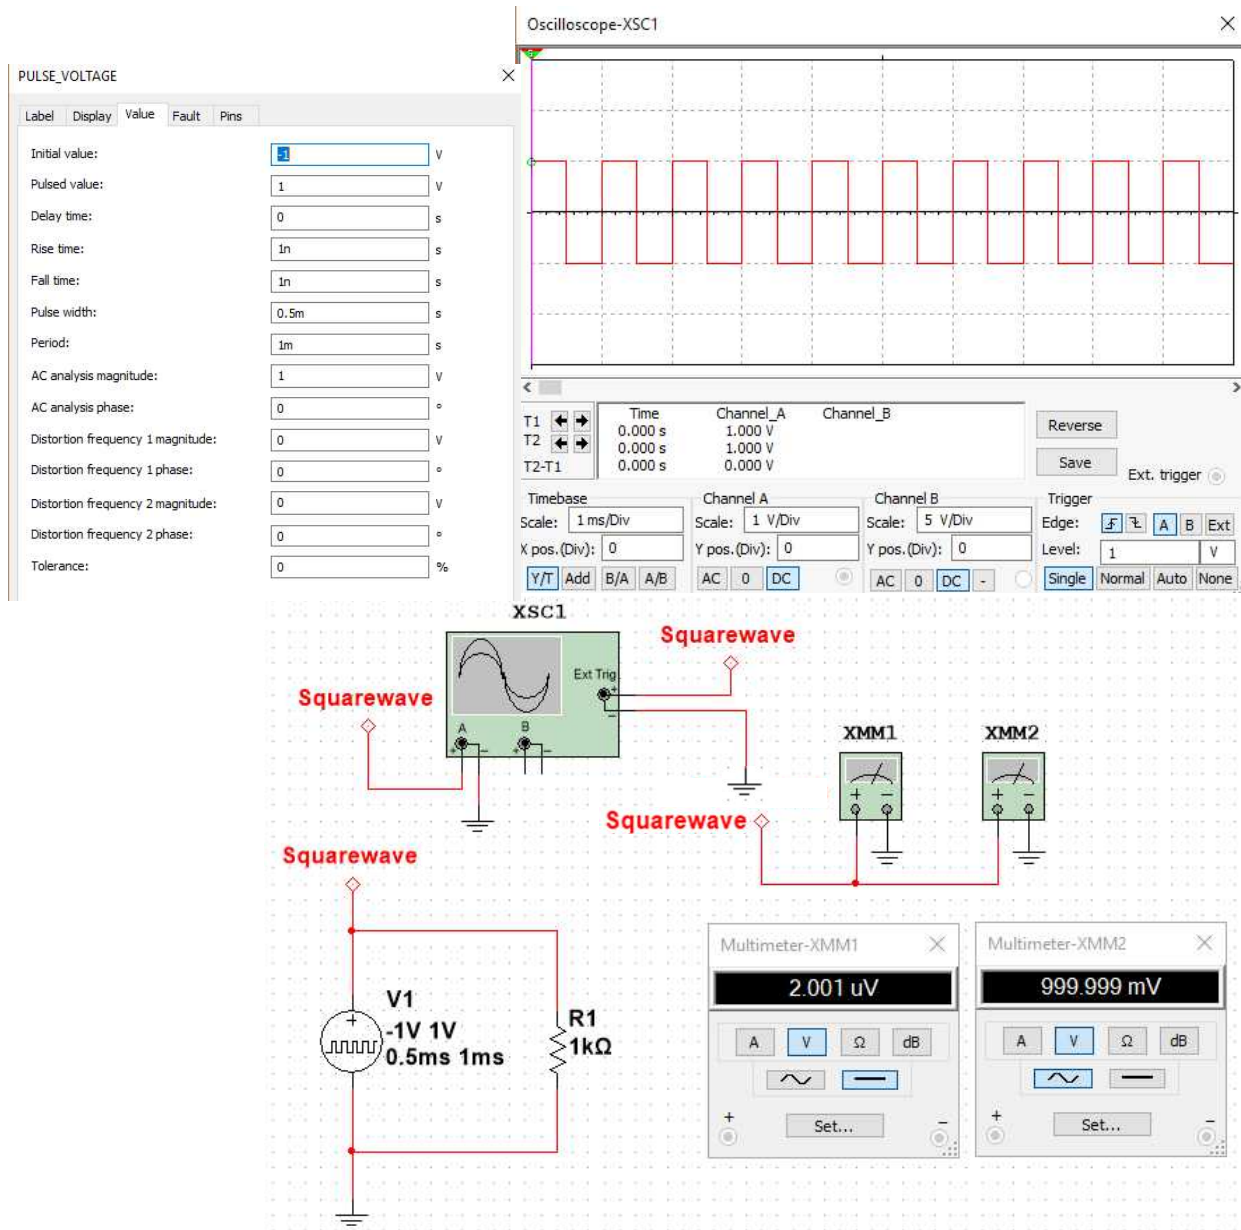

Figure 4-83.
- 4-79 Use the cursor of the oscilloscope to find $V_{dc(min)}$ for 3 Vp-p ripple waveform simulated in Prob 4-78. How does the triangle generator voltage offset compare to $V_{dc(min)}$? Duplicate the simulation of a square wave using the Multisim pulse generator as shown in Fig. 4-83.
- 4-80 Modify the simulation of a square wave shown in Fig. 4-83 to produce a waveform that goes from 0 V (initial value) to 10 V. Use the Multisim multimeters to display the average and rms values of the square wave?